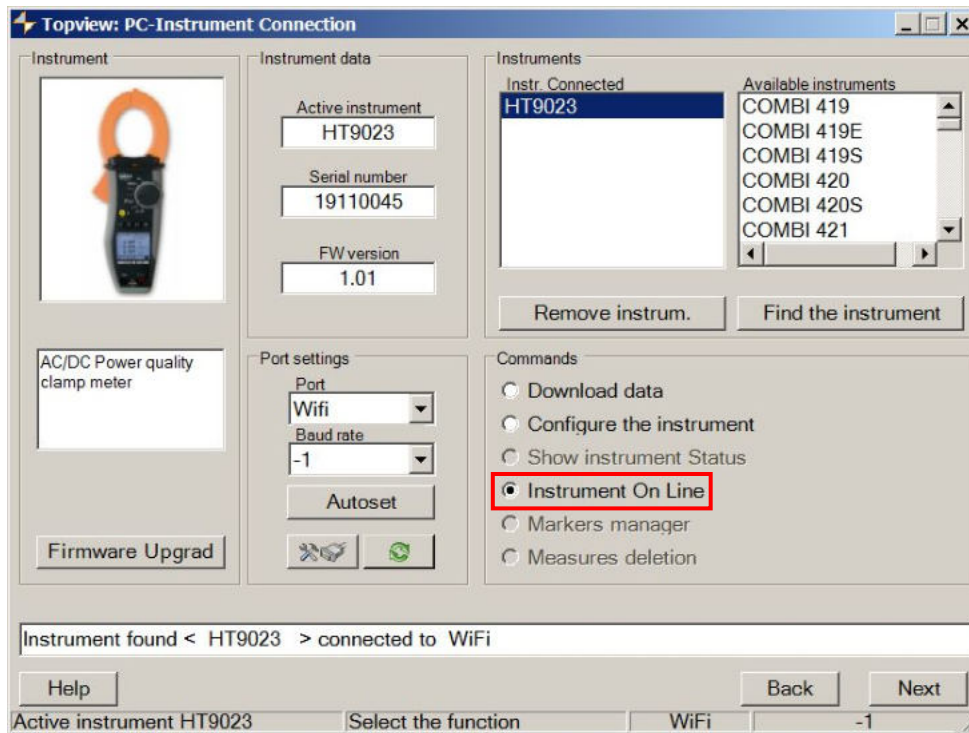

Fig. 19: Real-time connection of the instrument
- Open the "**PC-Instrument connection**" section and select the "Instrument on line" option as shown in the following Fig. 19